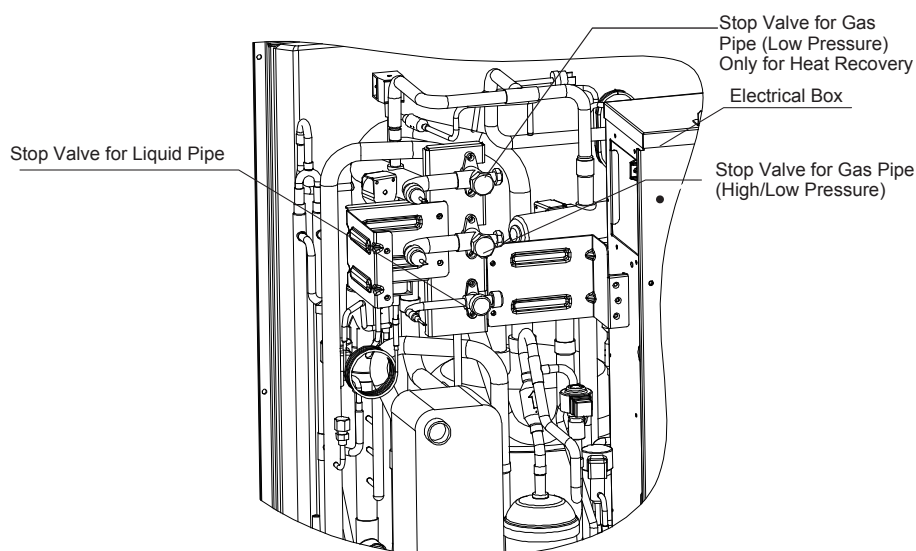

Figure 7.1
- (2) Follow the installation procedures in Section 7.2.1.
- (3) Connect the piping in accordance with Figures 7.1 and 7.2 on the following page.
- (4) Seal the gaps between the front side cover and pipes with insulation.